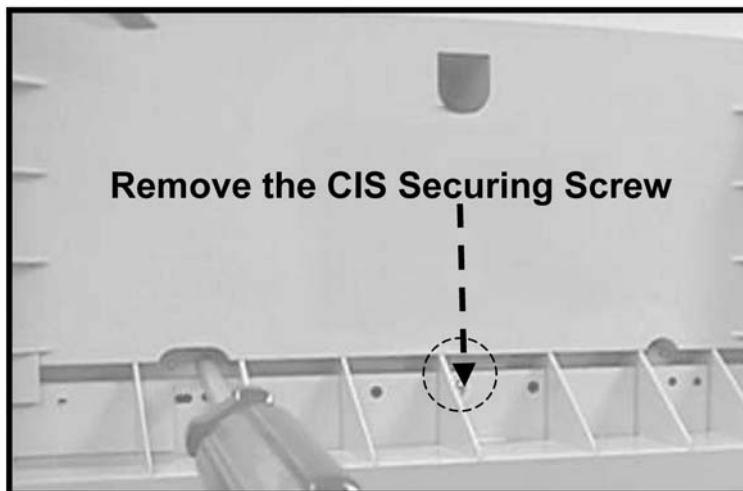

Figure 3
5. Remove the CIS securing screw, then the CIS assembly, Figure 3.